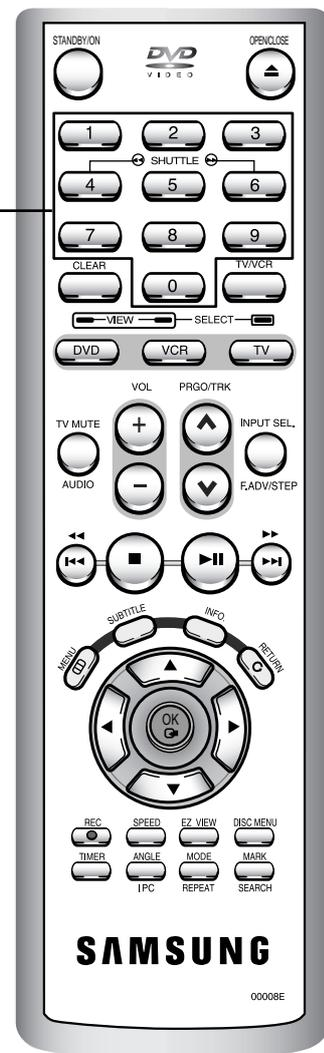

Fig. 6-1
- 3) Press the “1, 0” buttons; remote control adjustment operates automatically. (See Fig. 6-1)